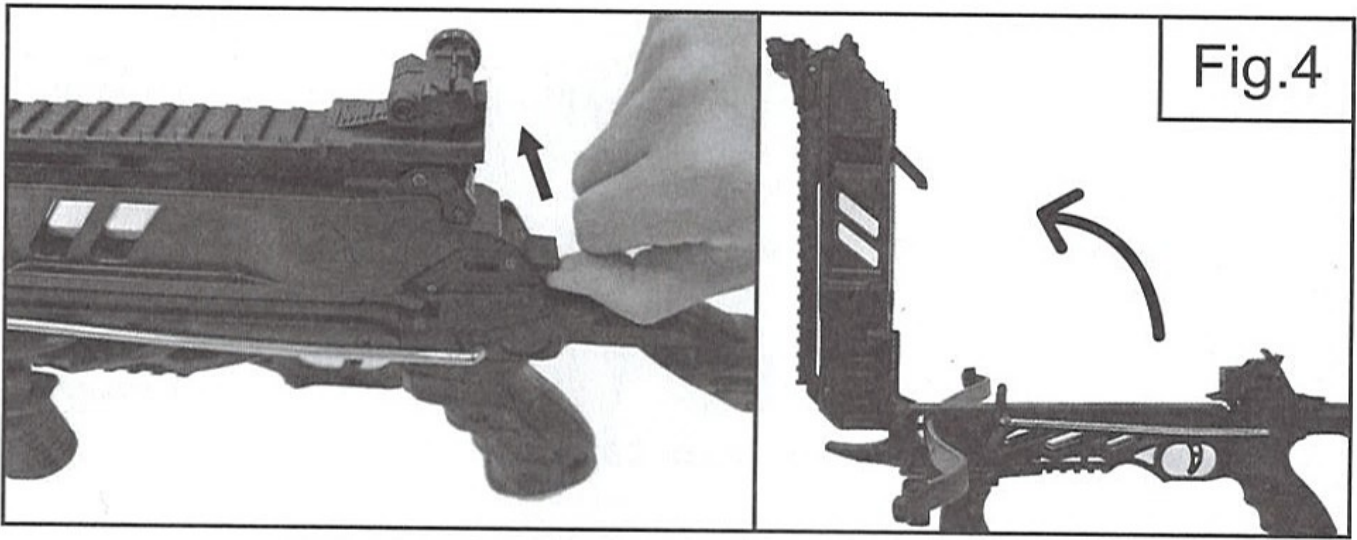

Fig.4
1. Release the magazine lever on the crossbow and open the magazine. (Fig.4)